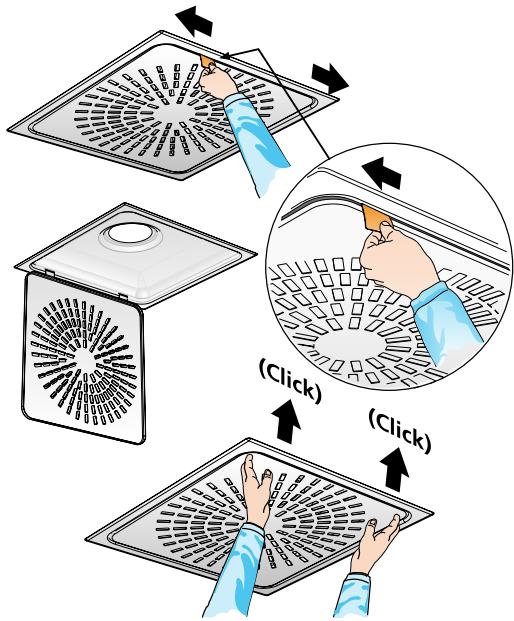

Figure 1. Quick Access, dismantling the diffuser face.
- Quick Access gives simpler and faster handling during installation, commissioning and cleaning. See Figure 1.
- To dismantle the diffuser face, insert a thin object, for example a Quick Access card, between the diffuser face and the backing box in order to release the springs. Slide the card from the centre out towards the corners, see Figure 1.